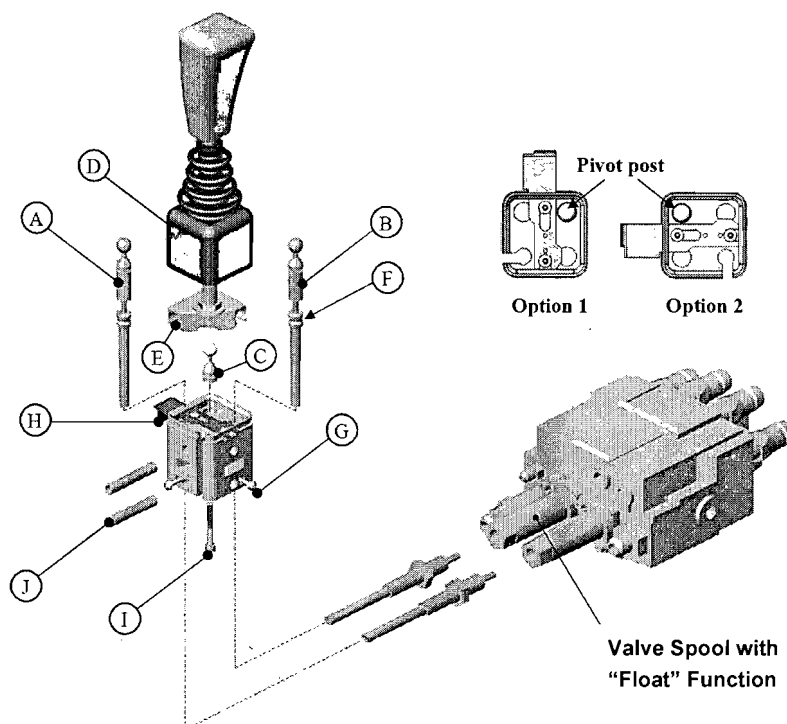

Figure 1 Cable Mounting to Joystick Control Lever
Refer to Figure 1 for reference to following installation points on fitting cables to joystick control lever.
- To connect cables to joystick control lever start by loosening the rubber boot (D) from the housing.
- Loosen the two screws (G) so as to not obstruct fitting of cables into collar. Also loosen fixed pivot post (C) by loosening lock screw (I).
- Feed ball end of cables (A & B) through housing and guide them into the seat of the yoke (E). The ball joints can be lubricated with petroleum jelly or the like.
- Draw the cables back into the housing and secure fixed pivot post (C) by tightening lock screw (I).
- Secure cables (A & B) using the screws (G) to locate and lock into locking grooves (F).
- Use the locking arm (H) to lock the joystick in the vertical neutral position. Replace rubber boot (D) onto housing.
- If the joystick control lever is to be mounted from the side, or the housing needs to be rotated 90° CCW, then spacer (J) needs to be moved and cut shorter to suit. Ensure to adjust joystick handle orientation to suit changes.
NOTE: It is important that the joystick control lever housing is mounted with the fixed pivot post (C) placed in the right rear corner (as shown in Figure 1 Option 1) with locking arm (H) at the back of the housing, or, if the joystick control lever housing must be mounted from the side (or rotated 90° CCW) the fixed pivot post (C) must be placed in the left rear corner (or locking arm (H) to the left hand side of the housing Option 2). This will ensure that the float function of the directional control valve can only be actuated when moving the joystick in the fully forward position.